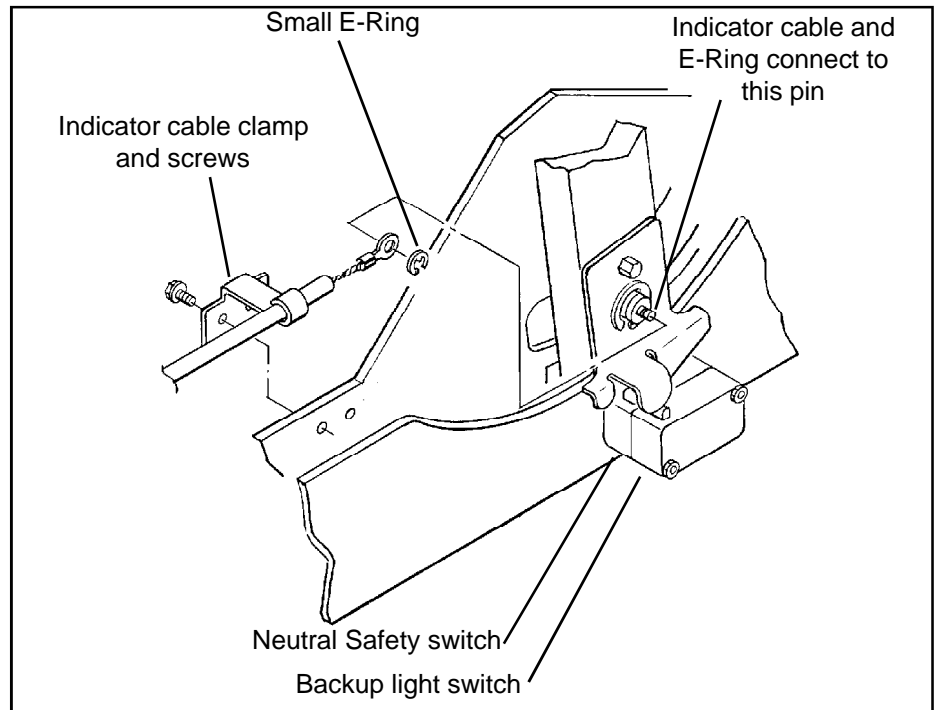

Figure 2
STEP 6. Check the operation of the neutral safety switch and the backup light switch (See Figure 2). You can hear the switches click when they are actuated. To adjust the switches loosen the screws that secure the switch cam to the shifter stick and slide the cam up
ignition switch to the solenoid on the starter. This wire is usually a 10 or 12 gauge purple wire. Run wires from both ends of the cut wire to the switch on the shifter. Put slip on terminals on the ends of the lengthened wire. Crimp terminals onto the wires using a crimping tool or pliers. Connect the neutral safety wires to the **INNER** switch and the reverse light wires to the **OUTER** switch (**See Figure 2**). Tape terminal connections and all other connections to prevent shorts. Reconnect the battery ground cable, dis-
Figure 2). Tape the terminal connections to prevent shorts. Reconnect the battery ground cable, disconnect the coil wire and set the parking brake. Check the switch operation by attempting to start the motor in each shifter position. **The starter must crank only when shifter is in the Park or Neutral position.** Check the backup light operation when the shifter is shifted to the Reverse position. Adjust the switches if
the original backup light switch on the steering column or console shifter. Run these wires to the top switch on the **B&M Sport Shifter (See Figure 2)**. Reconnect the ground wire and check the light for proper operation. Adjust the switches on the shifter if required.